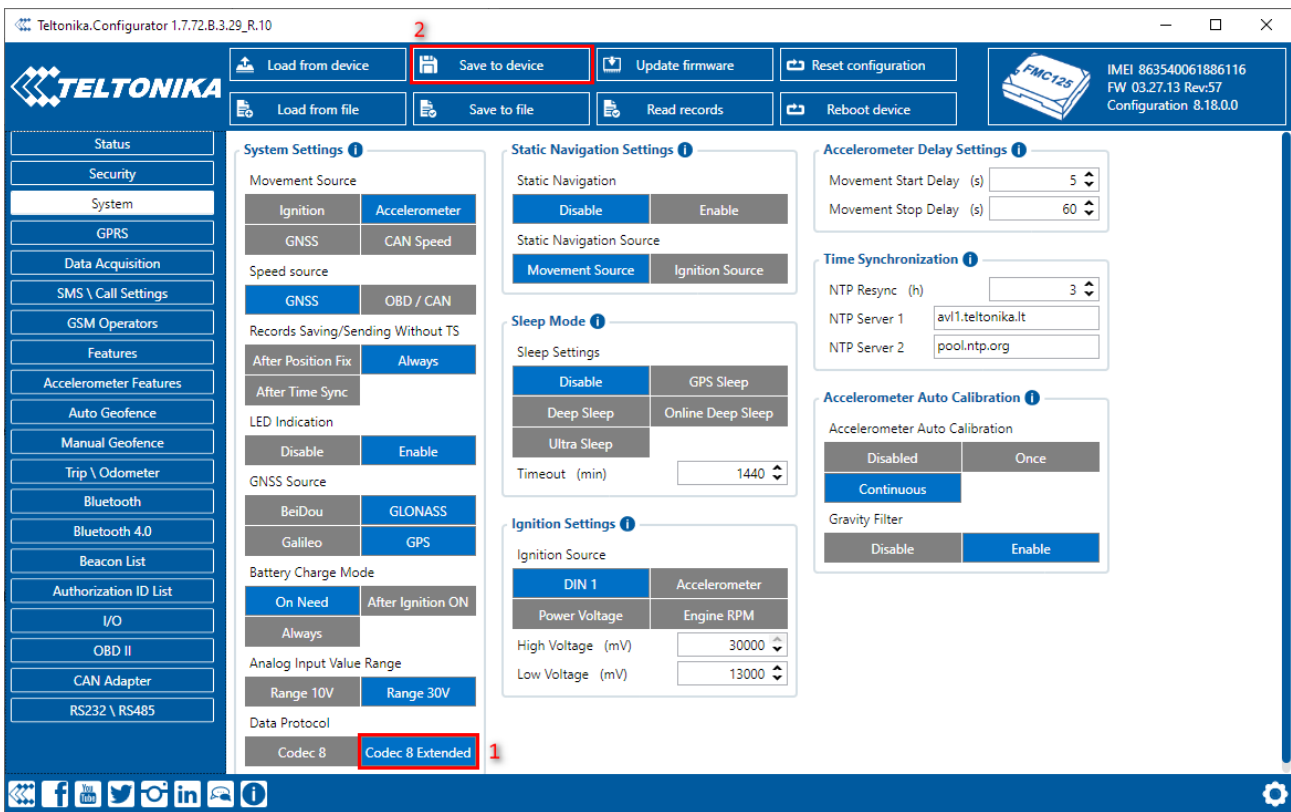

Figure K.9
K.1.8 On the "System" tab (Fig. K.9):